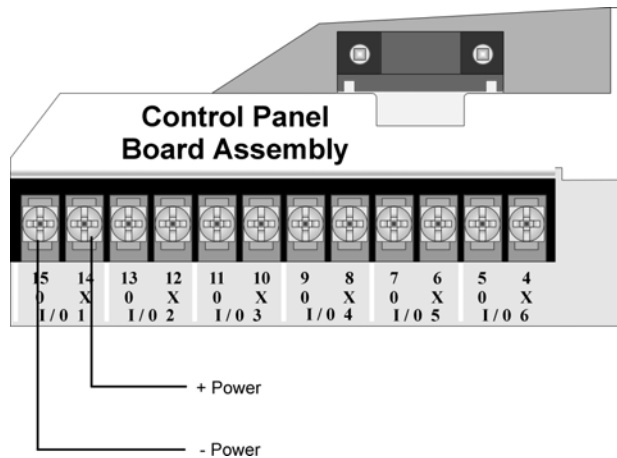

Figure 3: Flexput Auxiliary Power Output
1. Connect the aux power wires to the Flexput terminals using “X” terminals as positive and “O” terminals as negative power. See Figure 3.